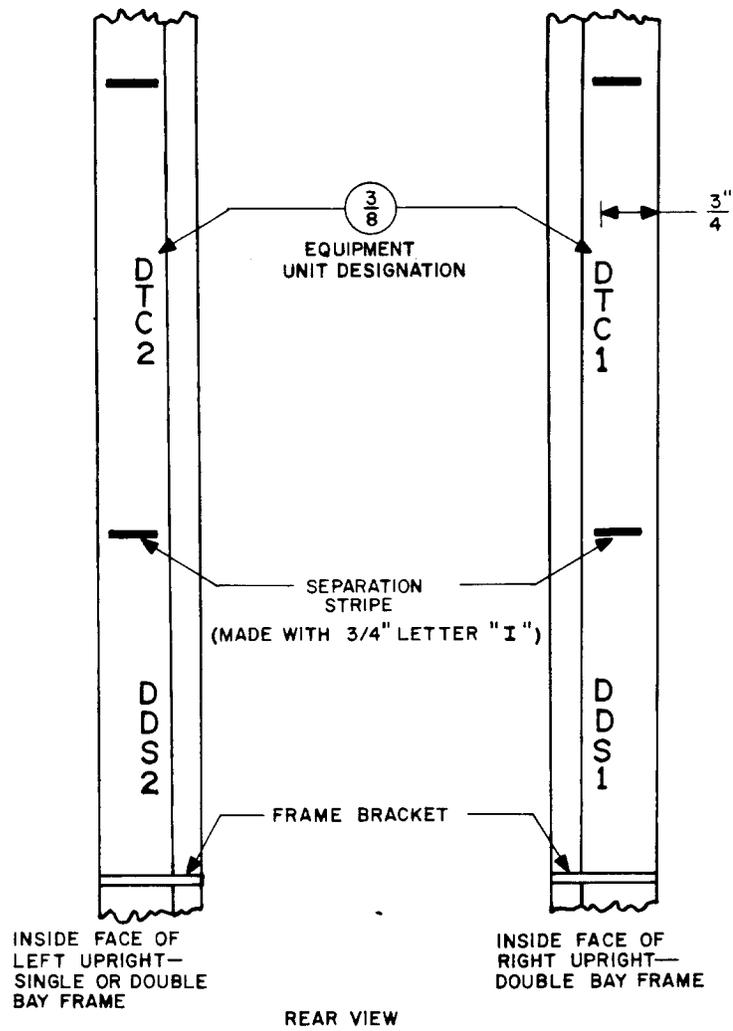

Fig. 4 - Equipment Unit Designations - Extruded Frame - Control Equipment
2.16 Equipment unit designations, when required, shall be stamped with 3/8-inch characters on the inside face of left and right uprights of double bay frames (left upright of single bay frames) as viewed from the rear. Characters shall be stamped in a vertical file reading from top down. Separation stripes used to indicate the physical limits of a unit covered by a specific designation shall be stamped with the 3/4-inch letter I. (See Fig. 4.)